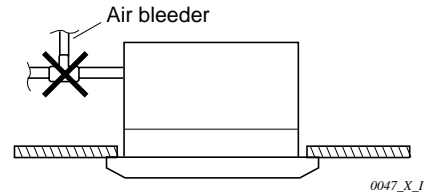

Fig. 3-13
- Do not install an air bleeder as this may cause water to spray from the drain pipe outlet. (Fig. 3-13)